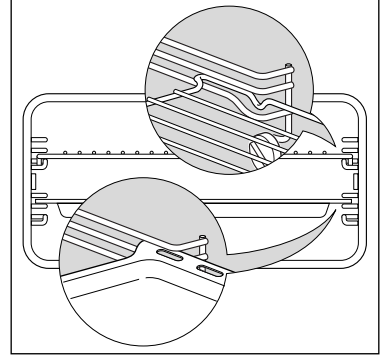

Fig. 32 Correct position of shelves and pan
- Put in the shelf and tray. Make sure you fit the shelf so that the safety notch, which stops it sliding out, faces down (Fig. 32).